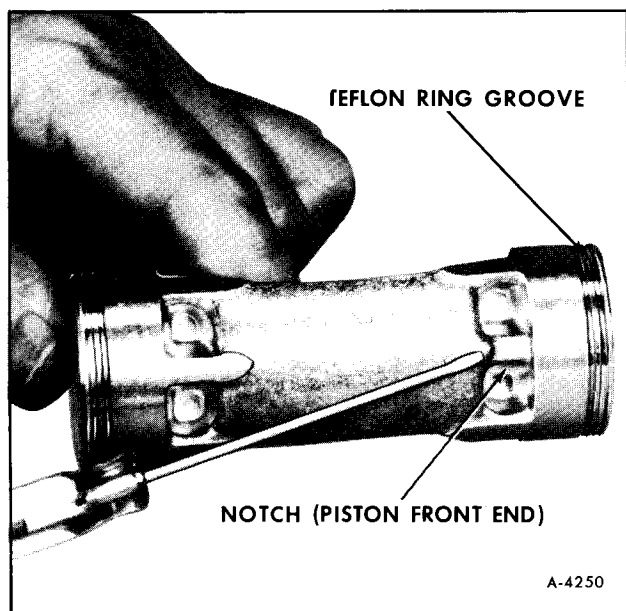
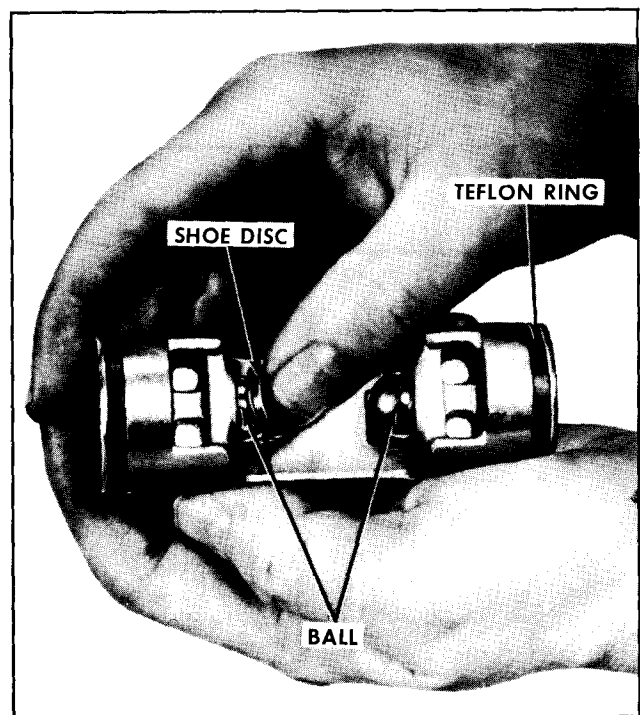

Figure 71—Notch Identifying Front End of Piston
Figure 76—Installing Front Shoe Disc
8. Place piston in No. 1 compartment of Parts Tray J-9402, with notch in casting web at front end of piston (figure 71) into the dimpled groove of Parts Tray compartment.
7. Lubricate cavity of a ZERO shoe disc with 525 viscosity refrigerant oil and place shoe disc over ball in front end of piston (figure 76). Front end of piston has an identifying notch in casting web (figure 71).